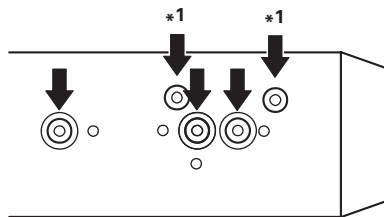
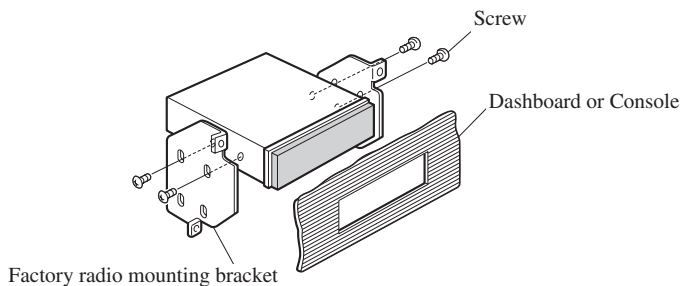

Fig. 14
Fig. 15
2. Fastening the unit to the factory radio mounting bracket. (Fig. 14) (Fig. 15)